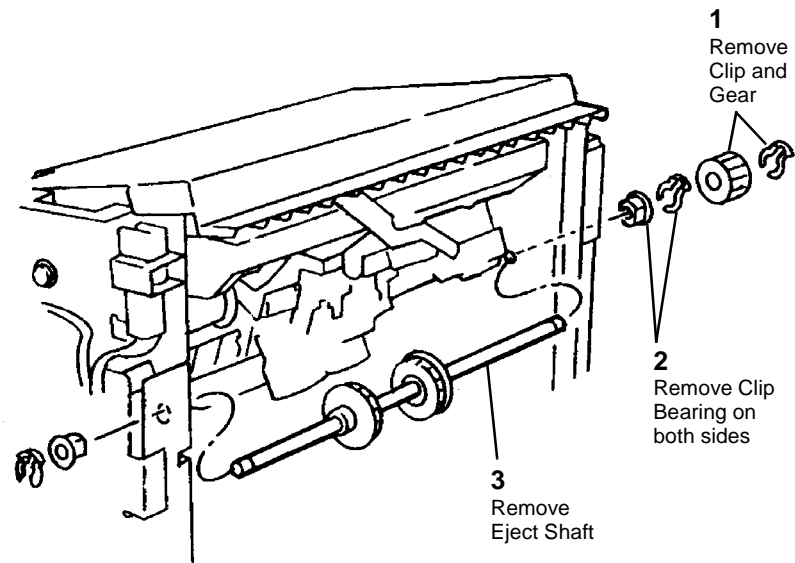

Figure 7 Removing Eject Shaft
8. Remove Eject Shaft (Figure 7).